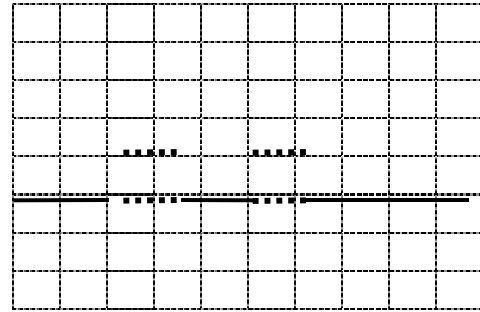

Fig. 5. Net Delay Angle at TP6.
7. To see the net delay angle change by placing probe channel 1 to TP6, probe channel 2 to test point A, and triggered from the channel 2. Adjust potentiometer to change the voltage of SIG, the pulse wave form on TP6 will be moved between the minimum to the maximum. If pins 2 and 3 are jumpered for DC converter, the net delay angle of the pulse is 30 degree shifted from phase A with 2-60 degree spaced pulses. See Fig 5.